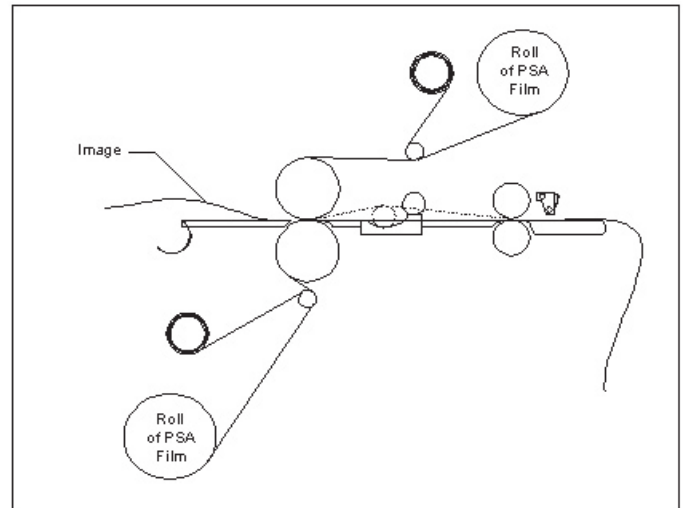

Fig 40
Tips for PSA Encapsulation (Figure 40)
1. Load the laminator as illustrated in Figure 40.